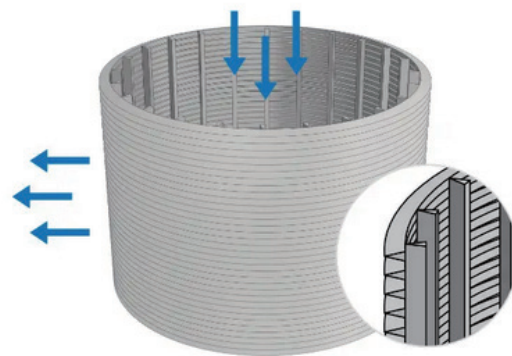

Figure 1-2 Radial External – FITO
- When the flow direction is from inside to outside (FITO), the flat side of the surface wire is on the inside of the tube, shown as figure 1-2. It is also called reverse wedge wire screen tube.